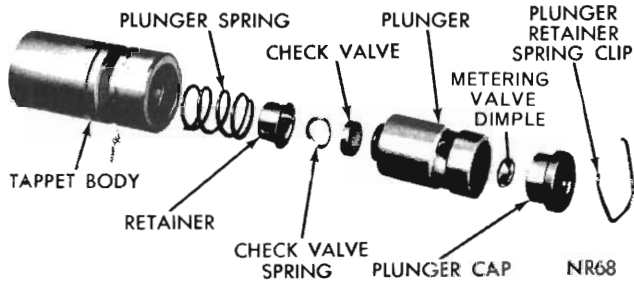

Fig. 20 - Hydraulic tappet assembly (Disassembled view)
(Refer Fig. 20).
- (1) Clean all tappet parts in a solvent that will remove all varnish and carbon.
- (2) Replace tappets that are unfit for further service with new assemblies.
- (3) If plunger shows signs of scoring or wear and valve is pitted, or if valve seat on end of plunger indicates any condition that would prevent valve from seating, install a new tappet assembly.
- (4) Assemble tappets in order shown in Fig. 20.